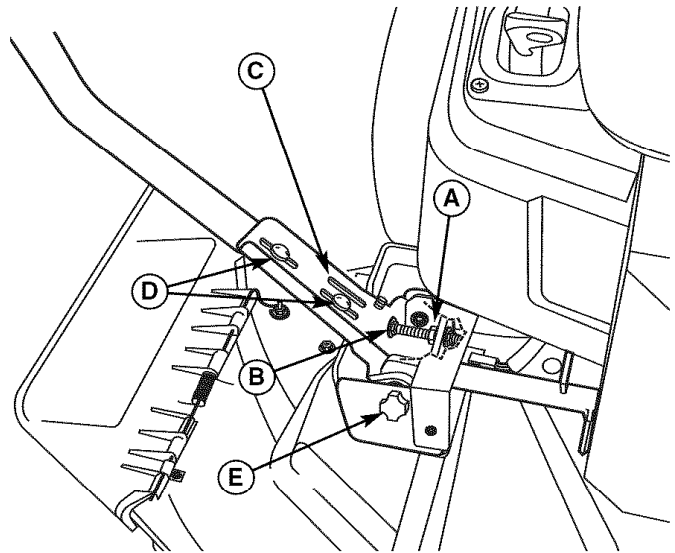
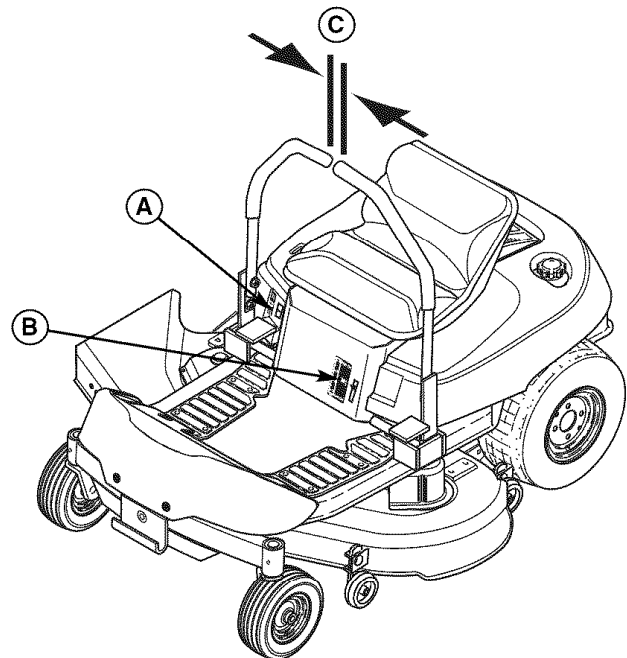

Figure 32 Control Lever Adjustment
Figure 33. Cutting Height Adjustment
To Adjust Control Lever Height: Pull the levers in across the operator's lap to their DRIVE positions. Loosen the mount bolts (D, Figure 32) and raise or lower the levers to the desired position. Tighten the mounting bolts.(D).
To Adjust Control Lever End Gap: The control lever end gap (C, Figure 33) should be adjusted so that the levers do not contact each other when placed in DRIVE positions. Loosen the jam nut (A, Figure 32) and adjust the length of the carriage bolt (B) so that the levers do not contact each other. Repeat on the opposite side. Tighten the jam nut (A) to lock the carriage bolt in position.
To Adjust Operator Clearance: The space between the operator and the control levers can be increase by removing the lower mounting bolt (D, Figure 32), pivoting the lever forward, and reinstalling the capscrew through the control lever and forward slot (C). Repeat with the other ground speed lever.
If the rider veers to the right or left when the ground speed control levers are in the maximum forward position, the top speed of the right lever can be balanced by turning the adjustment knob (E, Figure 32). Loosen the jam nut and turn the knob COUNTERCLOCKWISE to increase speed or CLOCKWISE to decrease speed. Tighten the jam nut when complete.
To increase the mower cutting height (raise the mower deck), press the top of the mower cutting height switch (A, Figure 33) To decrease mower cutting height (lower the mower deck), press the bottom of the switch. Mower cutting height range is 3-3/4" to 1-1/2". The cutting height gauge indicates the position of the mower deck.. The cutting height gauge (B) is located on the front of the rider, just behind the driver's left leg.